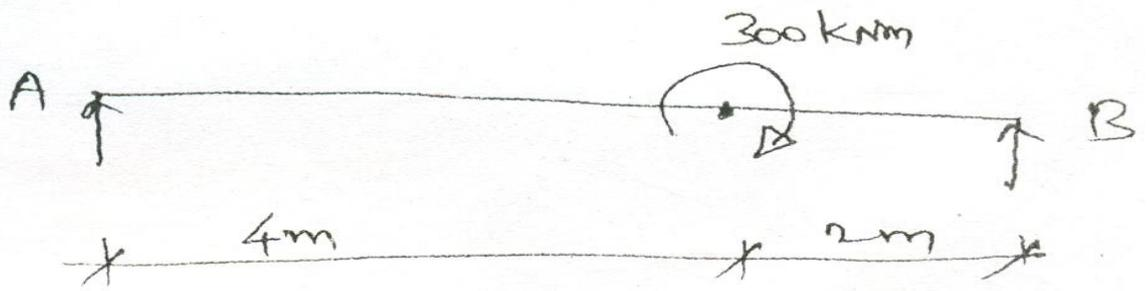

Fig. Q. 14(a)
71. For the cantilever beam shown in Fig. Q. 14(b). Find the deflection and slope at the free end.  $EI = 10000 \text{ kN/m}^2$ .